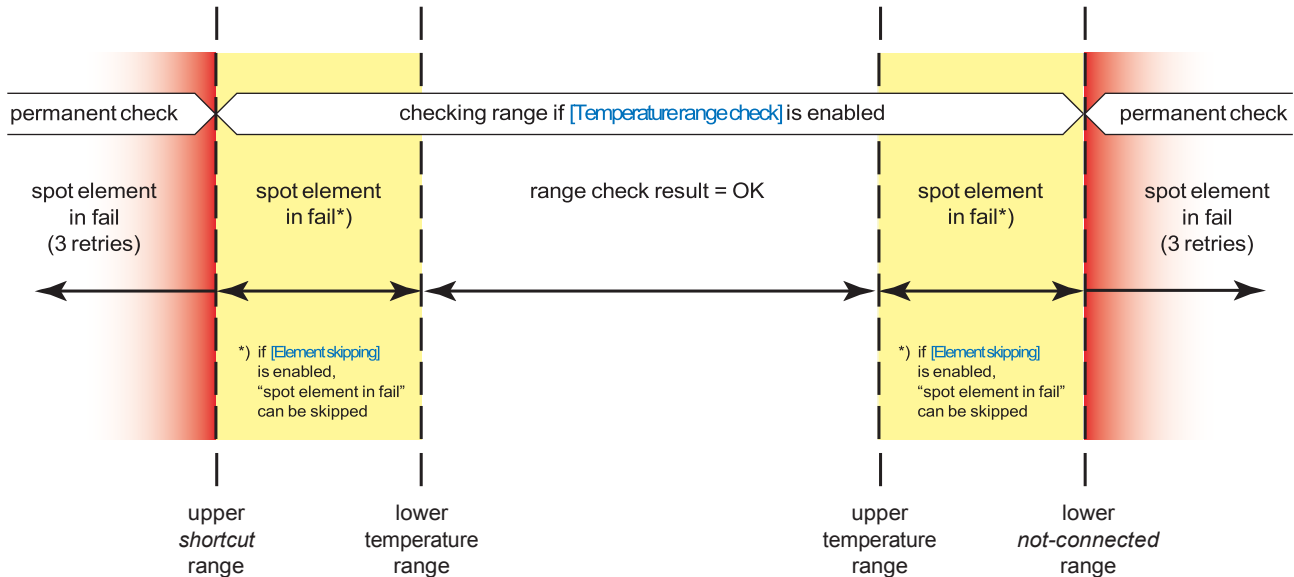

FIGURE 7-42 Temperature range check feature
- A *temperature-range check* can be turned on. In this case, if spot elements are out of range, a fail state results (if not skipped), see FIGURE 7-42.